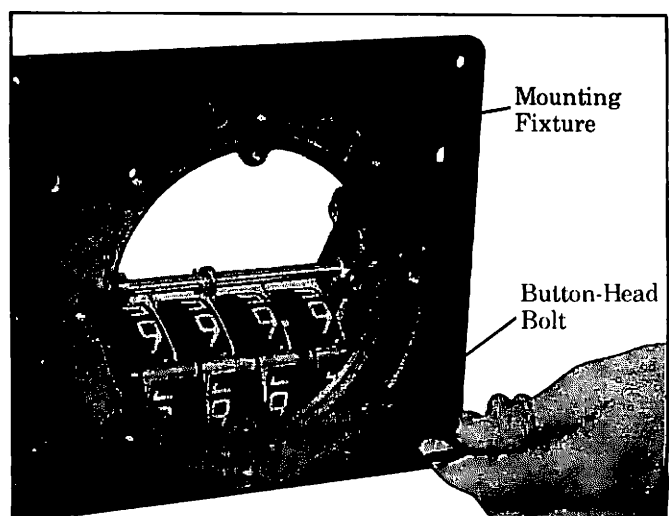

Figure 27. Securing Mounting Fixture.
- b. Secure the meter register to the fixture with two 1/4-28 button-head bolts. See Figure 27.